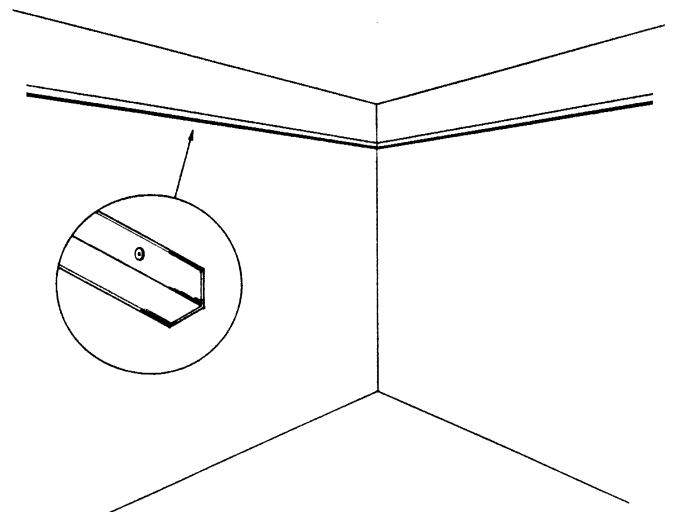

FIG. 2
3. Secure Wall Angles to walls with all plastic drive rivet or other non-corroding fasteners. **FIG. 2**